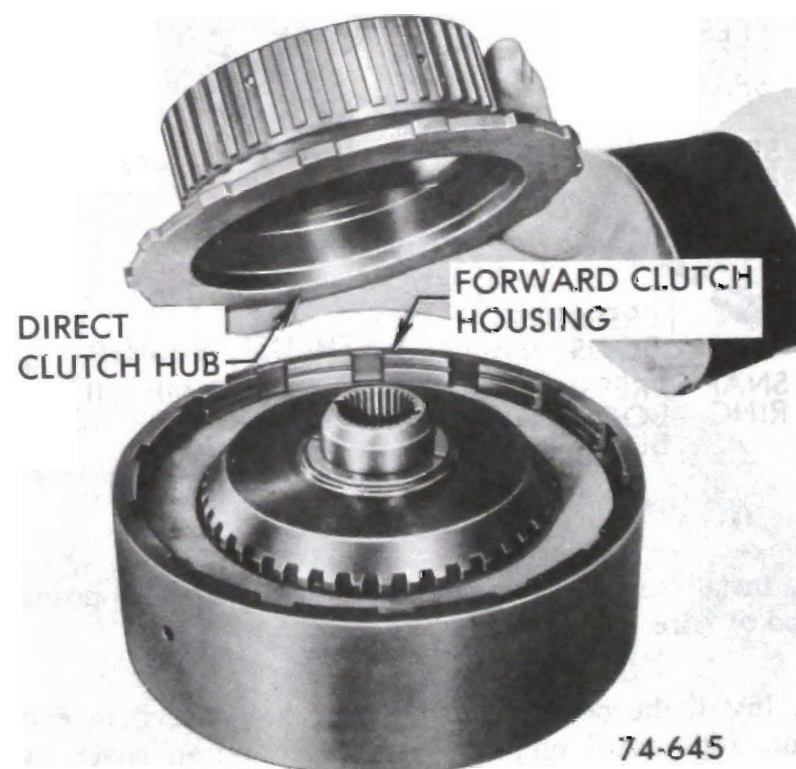

Figure 76-176
2. Remove the direct clutch hub. See Figure 76-176.